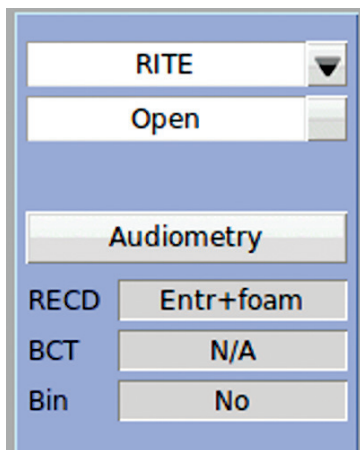

Figure 7 Indicating that you are using an open canal fitting.
- Once the measure stabilizes, click the **green check mark** and the measurement is complete (Figure 7). This measurement is saved and serves as the “coupler” portion of the RECD measurement that you will be completing with every patient to convert the dB
When you indicate that the instrument is “open” (Figure 7), the system turns off the reference microphone when you are completing Speechmapping. An “open” fitting could include an open dome coupling or an earmold that has a large vent. If “open” is selected, you will be prompted to **equalize**. Equalization is a leveling procedure for open-fit hearing aids and, after completion, the reference microphone is turned off for the rest of the measurements. When you equalize, you need to turn off or mute the hearing aid (you can do this manually or in the software if the hearing aid is connected to the manufacturer’s fitting software). If you do not turn off the hearing aid, the measurement will already be inaccurate because the hearing aid amplification could leak out of the ear and reach the reference microphone. Once equalization is complete, remember to turn the hearing aid back on for your measurements!